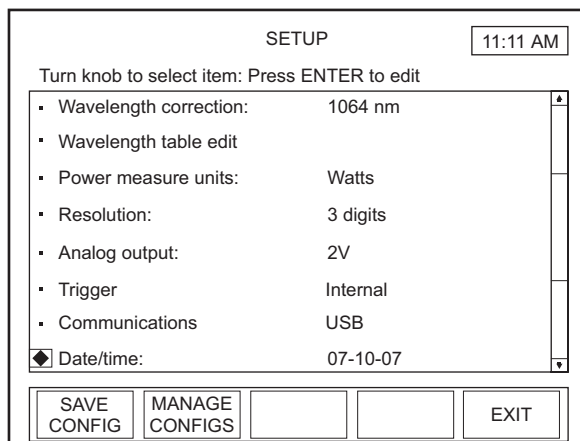

Figure 66. SETUP: Date/Time
1. On the main SETUP screen, turn the Selection knob to move the diamond indicator to Date/Time (Figure 66).